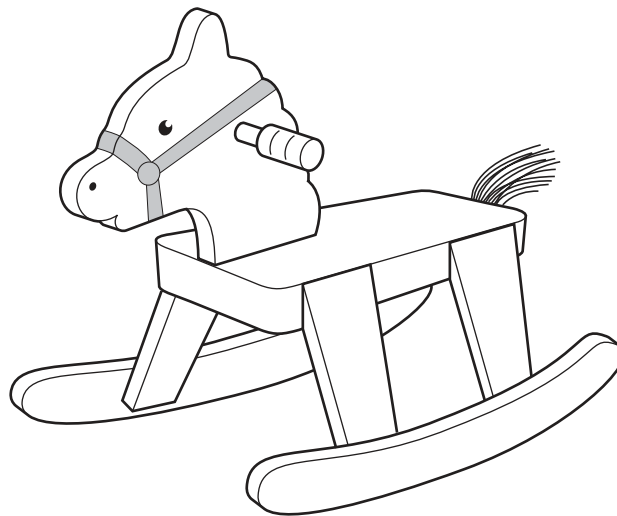

Fig. 3
- 5 An outline design for a wooden rocking horse is shown in Fig. 3. Give **three** safety features that the rocking horse should have. [2]